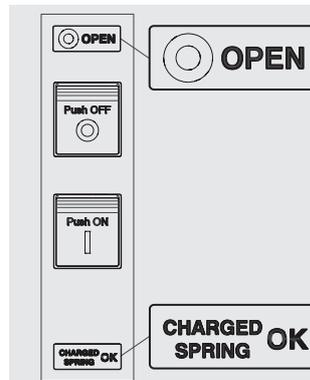

Figure 78
2. Circuit-breaker open with springs charged (see Figure 78).